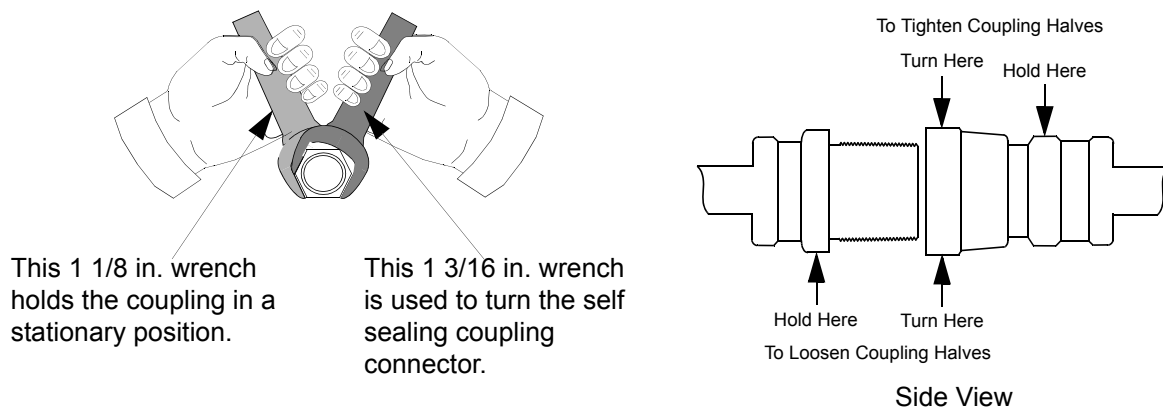

Figure 3-3: Connecting/Disconnecting Helium Flex Line Self Sealing Couplings
Make sure the helium flex lines are connected and disconnected from the 9650 Compressor using the following procedure and as shown in Figure 3-3. Failure to follow this procedure could damage connector O-ring seals or cause a helium circuit leak.
2. Connect the Gas Return line to the GAS RETURN connector on the rear of the Compressor and then to the GAS RETURN connector on the cryopump. Using two wrenches as shown in Figure 3-3, tighten the connector.
3. Connect the Gas Supply line to the GAS SUPPLY connector on the rear of the Compressor and then to the GAS SUPPLY connector on the cryopump. Using two wrenches as shown in Figure 3-3, tighten the connector.
1. Using two wrenches as shown in Figure 3-3, disconnect the two self sealing coupling connectors quickly to minimize helium leakage.